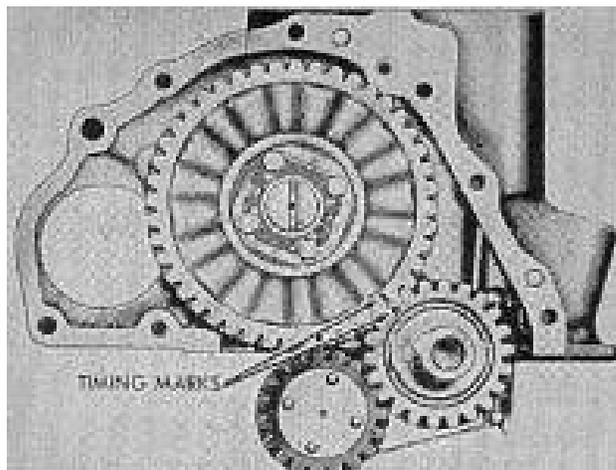
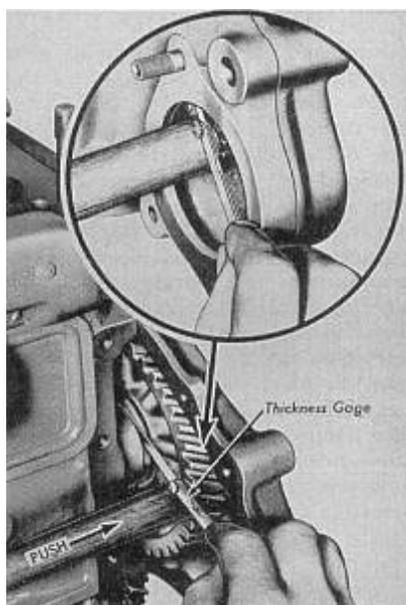

Fig. F020 – Valve timing marks.
Fig. F022 – If camshaft end play exceeds .006 when checked as shown, install a thinner gear cover gasket or a new cover.
Renewal of crankshaft gear requires use of puller and removal of front main bearing cap and oil pump assembly. When reinstalling camshaft gear, mesh timing marks on gears as show in Fig. F020 and use extreme care so as not to injure or scrape the comparatively soft tooth faces of the camshaft gear.
29. Remove the timing gear cover as outlined in paragraph 28. Remove cylinder head and valves. Lift push rods out of bores and pull camshaft out toward front. Renew camshaft if journals are worn and measure less than 1.795 or if cams or journals are scored or corroded. Install camshaft in reverse order of removal and mesh timing gears as in Fig. F020. Check camshaft end play by measuring clearance between rear of camshaft gear flange and boss on engine block through governor opening or after removing side gear cover as shown in Fig. F022. If more than .004 clearance exists, use a thinner timing gear cover gasket or renew the cover. Check valve tappet clearance and respace or readjust, if necessary. For service, only the bolted-on gear type camshaft is available.